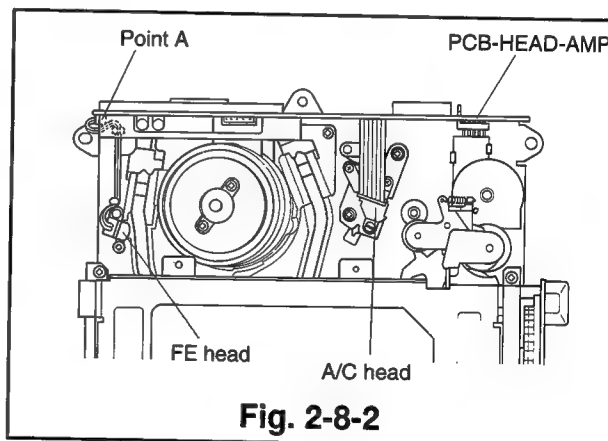

Fig. 2-8-2
- ④ Disconnect the lead connector (point A), connected to the FE head. (Refer to Fig. 2-8-2.)
- ④ Connect the lead connector, connected to the FE head, to the point A. (Refer to Fig. 2-8-2.)